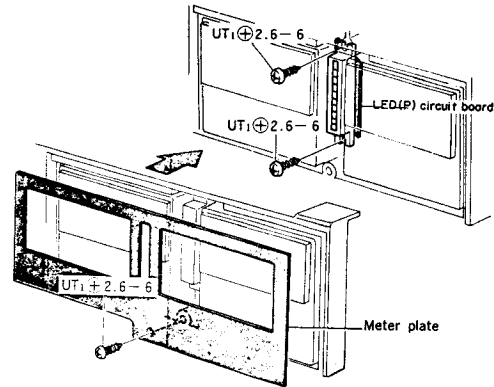

Fig. 10
- 2) Remove 2 screws. (Refer to Fig. 10)